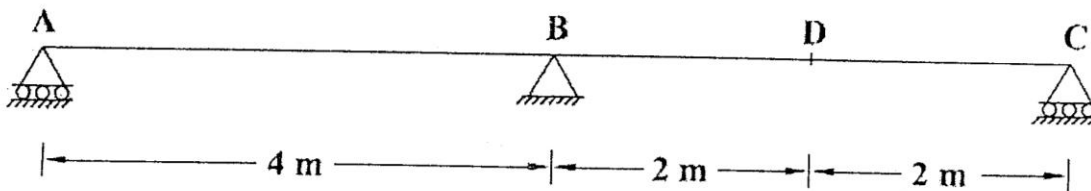

Figure -1
3. Determine the influence line for the shear force at D, the middle point of span BC, of a continuous beam, shown in figure-1. Compute the ordinates at 1 m interval. EI constant.